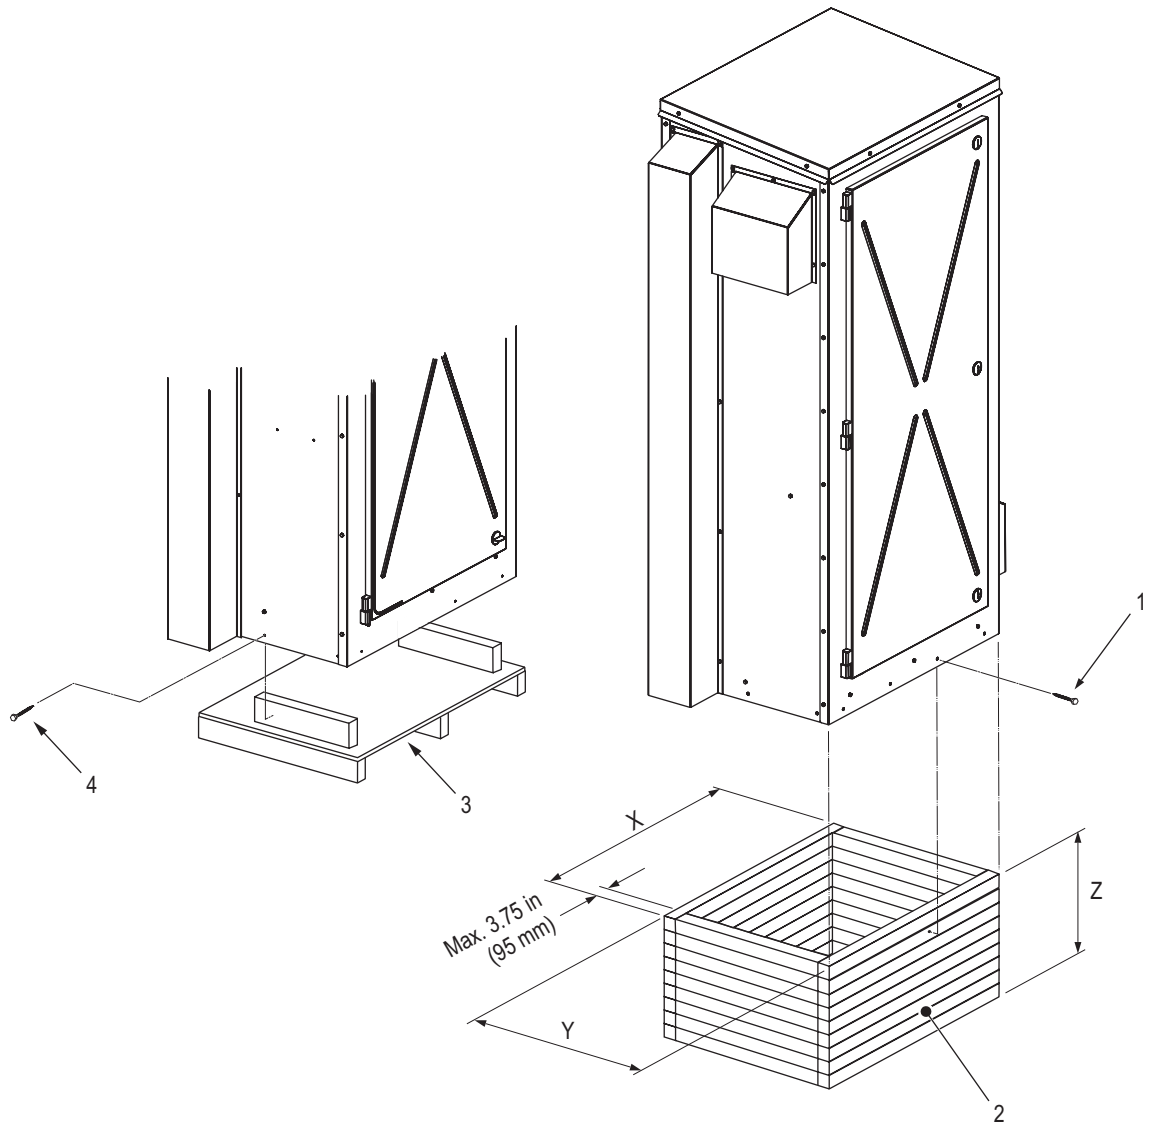

Figure 11: Rooftop Curb Mounting
3. Construct the curb to the dimension shown in Figure 11 on page 31 and Table 6. Make sure that the curb is capable of supporting the full operating weight of the unit – refer to Table 9 on page 61.